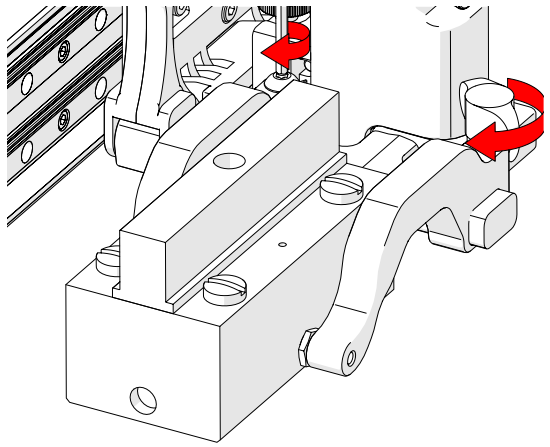

Fig. 77 - Tighten knobs and screws
7. Tighten both the probe holder adjustment knob and the arm clamp screw (Fig. 77) while ensuring the wedge remains centred with the yoke.